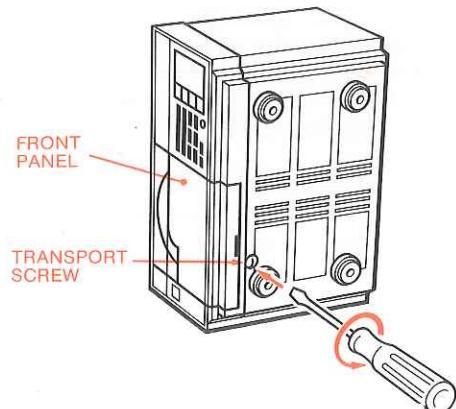

Fig. 1
- Place the disc reader on its left-hand side as shown in the figure 1.
- When the disc stops and the number of tracks on the disc appears on the readout display (5), press the play button (11) « ▶ ». The indicator lamp of the button will light up. The disc will begin to turn then, a few seconds later, the figure 1 will appear in the readout display (6). The first track of the disc will begin to play. At the end of each track on the disc, the time indicated on the counter (9) will be reset to zero and the figure in the readout display (6) will move on to the next number.
The track duration is indicated on the counter (9) ; the figure 1 is indicated in the readout display (5) and readout display (6) indicates a number corresponding to the programmed track.
- Press the programming button (23) once again, then press the buttons (19) « 10 » and « 1 » to select the next track and so on. The counter (9) and the readout display (5) then indicate respectively the total playing time and number of track selected. The number of the last track selected is indicated by readout display (6).
- When the last track has been selected, press the playback button (11) « ▶ »; the indicator lamp lights up and the tracks are read automatically in the programmed order.